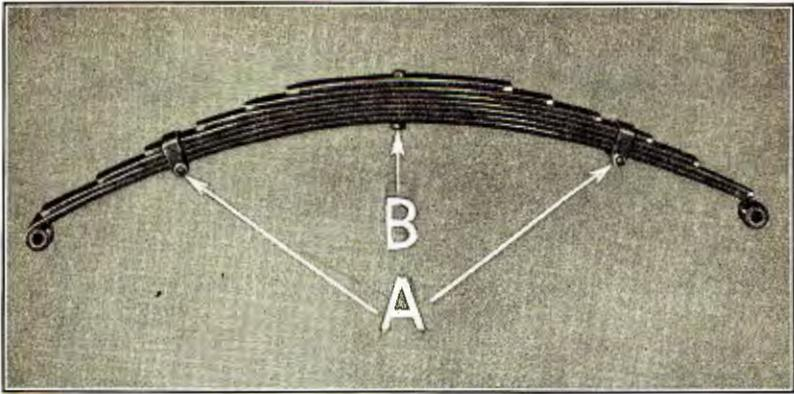

Fig. 368
- 679** Examine spring for broken or twisted leaves. The spring is disassembled by running off the nuts on the two spring clamp bolts (See "A" Fig. 368) and withdrawing bolts and clamps. The spring is then placed in a vise and the tie bolt nut "B" run off and bolt withdrawn from spring. If spring leaves are cracked, twisted or broken new leaves should be installed.